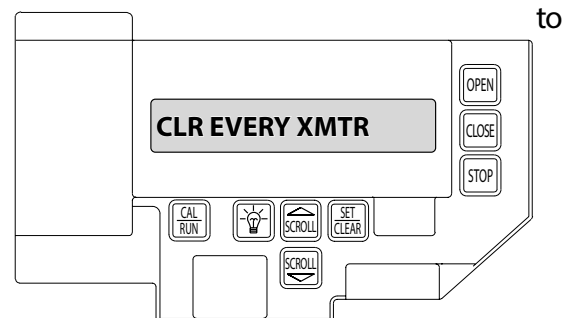

FIG. 3
2. Press SCROLL (up or down) until display reads CLR EVERY XMTR FIG. 3.